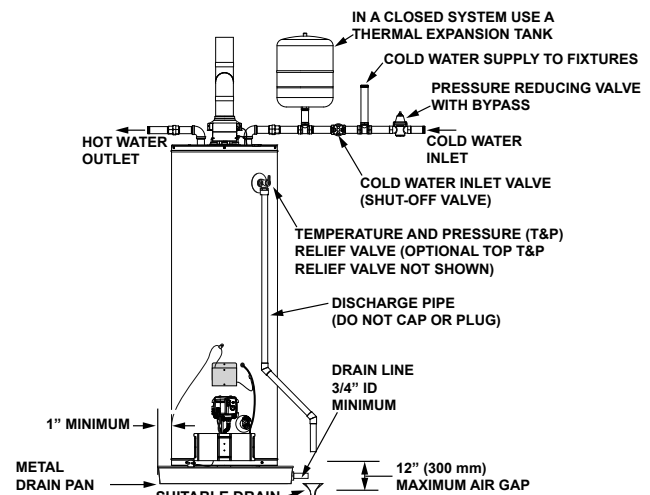

FIGURE 13.
1. Install the water piping and fittings as shown in Figure 13. Connect the cold water supply (3/4" NPT) to the cold water inlet fitting. Connect the hot water supply (3/4" NPT) to the hot water outlet fitting.